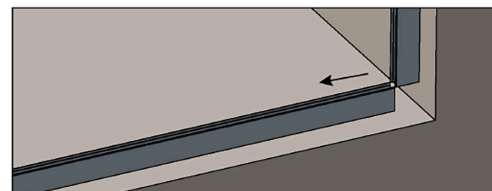

FIGURE 10
Once Wall Channel (C) is attached, remove tape from Curb Channel (D) and carefully slide directly out from under Wall Channel (C) (See Figure 10)